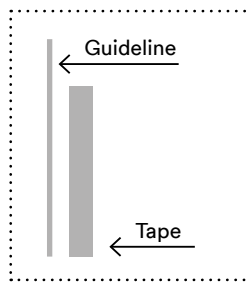

Figure 1
- When applying the tape in long straight lines a chalk line may be used as a guideline. (*figure 1*)
- To apply the tape, remove a portion of the end of the tape and firmly tack it down to the floor. Gently pull to unwind the tape from the roll as it is being applied by hand, following the chalk line. (*figure 1*)